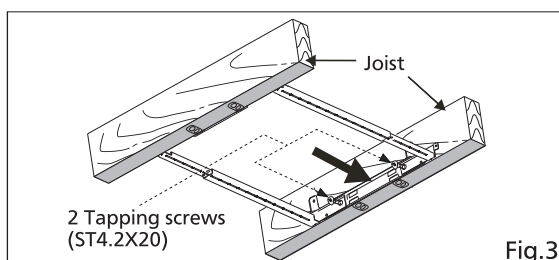

Fig.3
3. Adjust the length of Flex-Z Fast™ bracket to fit the spacing between joists, fix the Flex-Z Fast™ bracket with the other two pre-installed tapping screws. (Fig.3)